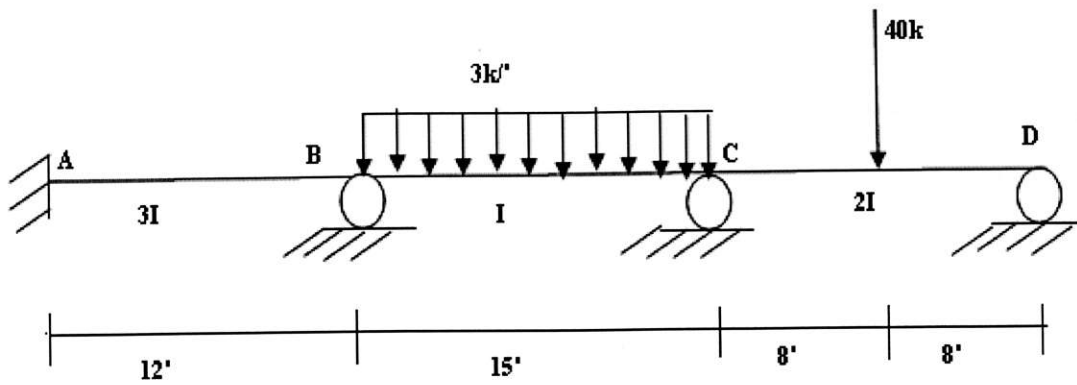

Figure 10
- 10 Analyze the beam of **Figure 10** using **Moment Distribution Method** and draw shear force and bending moment diagram.